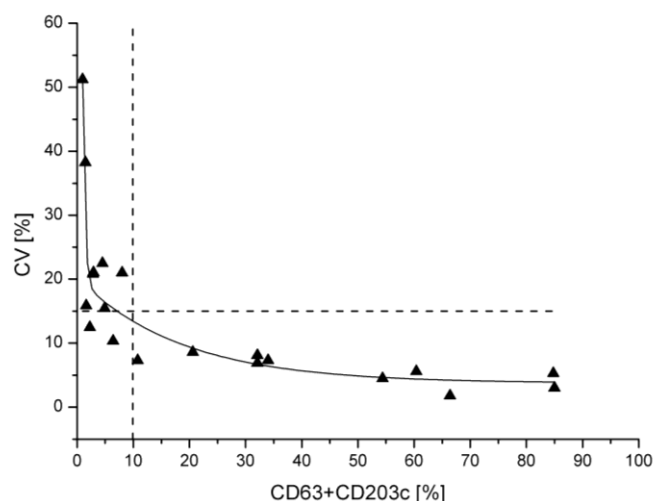

Figure 5: Precision profile
**Precision:** A precision profile was calculated from differently stimulated blood samples (n=20). Each sample was incubated 12 times with stimulation buffer or stimulation control and consecutively analyzed by flow cytometry. The results are expressed as coefficient of variation (%CV) and plotted against % activation (CD63+CD203cPOS). The precision profile is shown in Figure 5. At basophil activation above 10% the CV is below 15%.